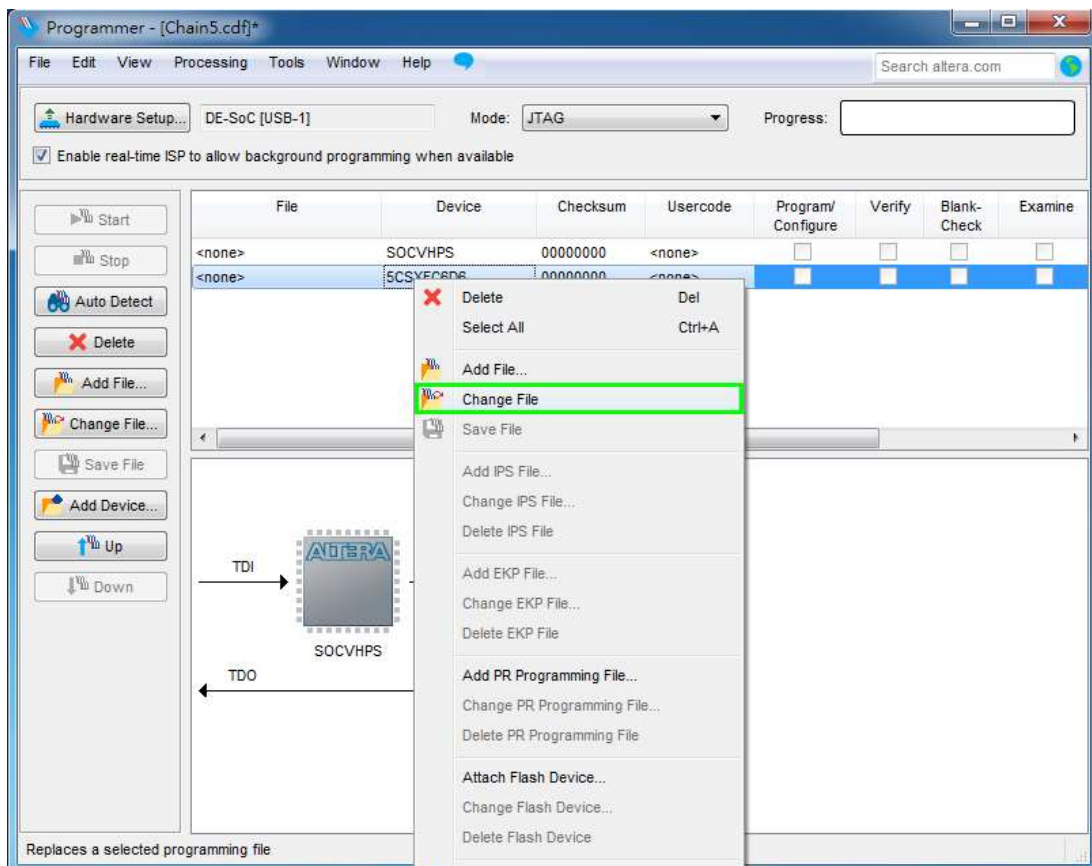

Figure 3-6 Open the .sof file to be programmed into the FPGA device
- Right click on the FPGA device and open the .sof file to be programmed, as highlighted in Figure 3-6.